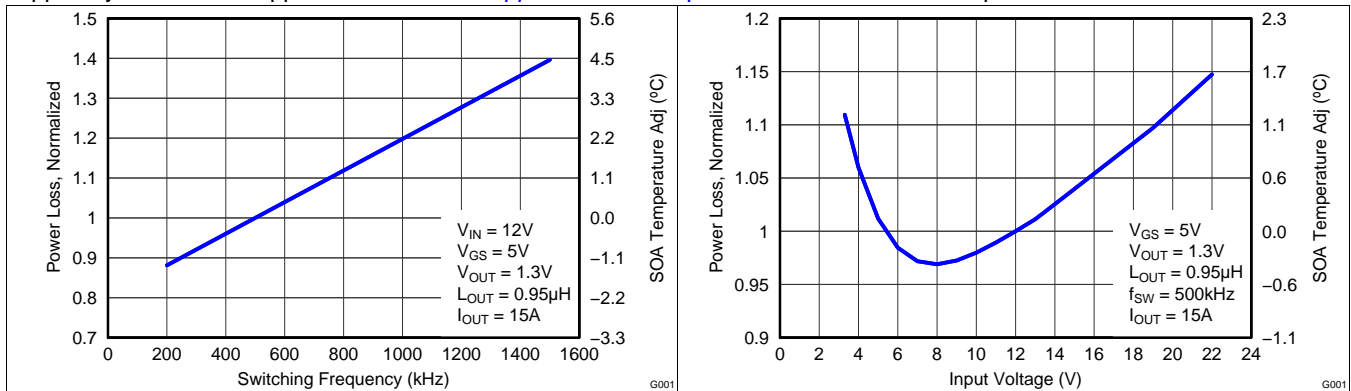

Figure 5. Normalized Power Loss vs Switching Frequency
- Normalized Power Loss for switching frequency \approx 1.11 (Figure 5)
- SOA adjustment for switching frequency \approx 1.03°C (Figure 5)